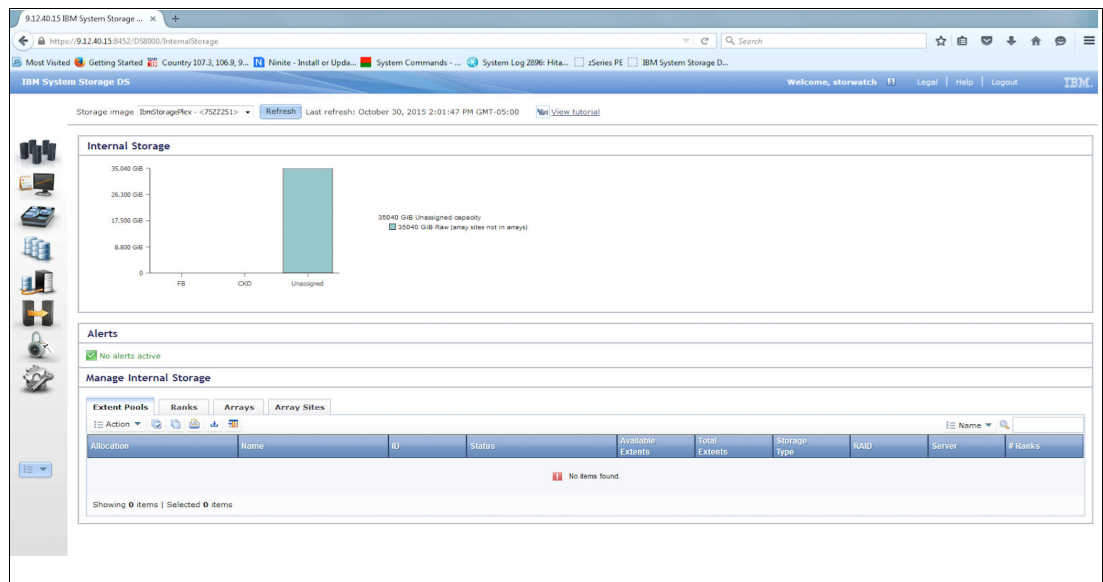

Figure 6-7 Internal Storage Management panel
2. We select **Internal Storage** and the management panel displays, as shown in Figure 6-7.